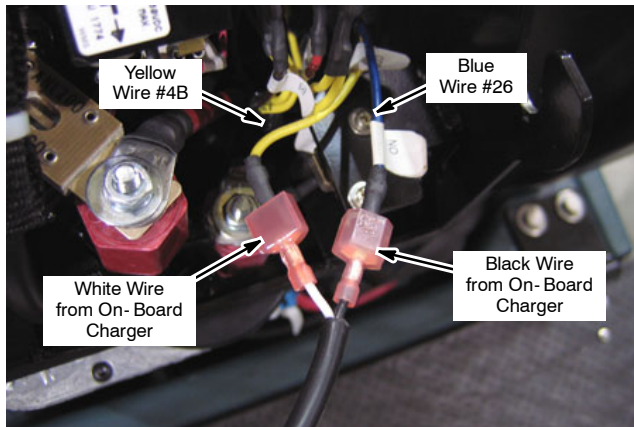

Fig. 7
9. Connect the white and black wires from the on-board charger to the wires removed from the interlock switch (Figure 7).